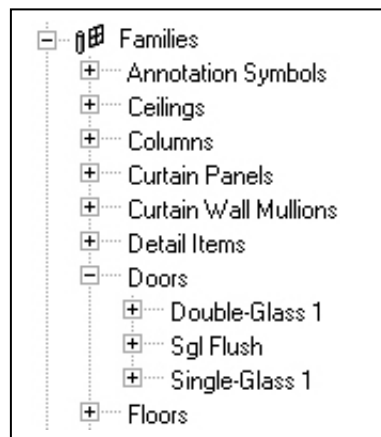

Figure 3-5.3 Loaded door groups
6. In the *Project Browser*, expand *Families* and *Doors* to see the loaded door groups (Figure 3-5.3).